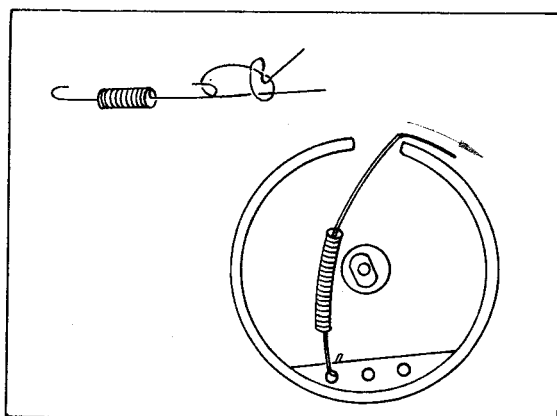

Fig. 2-15 Starting point detail
2. Tie one end of the replacement dial cord (0.5 mm or 1/32" diameter) to a coil spring, and then hook the spring to one hole of the drive drum as shown in Fig. 2-15.